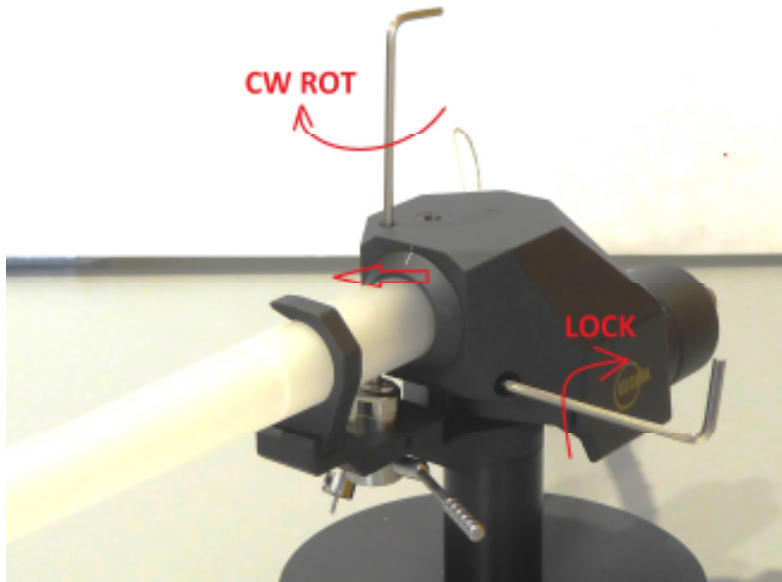

Fig. 14. Azimuth adjustment-unlocking
To make azimuth adjustments, release the screw locking the mechanism on the side of the tube assembly with Allen key 2,5mm. Insert the Allen key 2 mm into the screw (it may feel loose), rotate it slightly and it will alter the azimuth. (Fig. 14.)